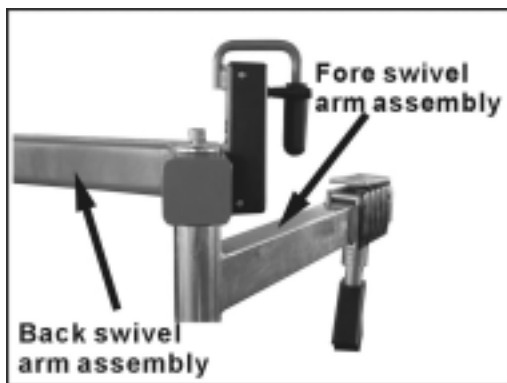

Fig.18
- Take out fore swivel arm unit and relevant fastening parts, apply lubricant on the parts, then assemble them as in fig.18.